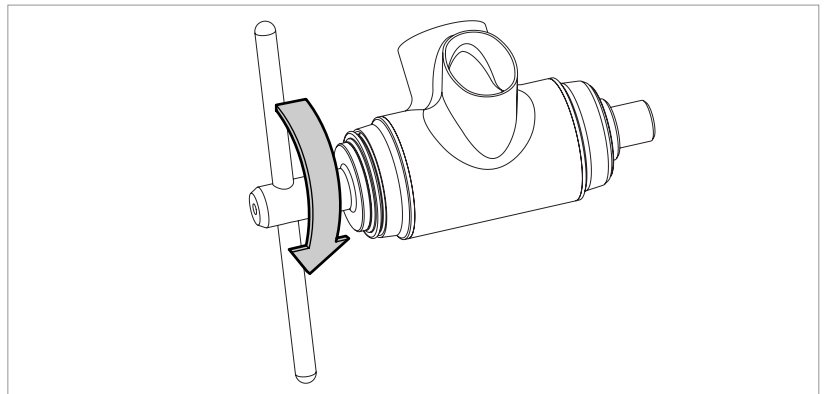

Fig.6
- Turn the lever of tool UT-BB240 clockwise until both bottom bracket cups are flush with the bottom bracket (Fig. 6).
- Before removing the tool, check that the bottom bracket cups are installed correctly on the bottom bracket (Fig. 6).